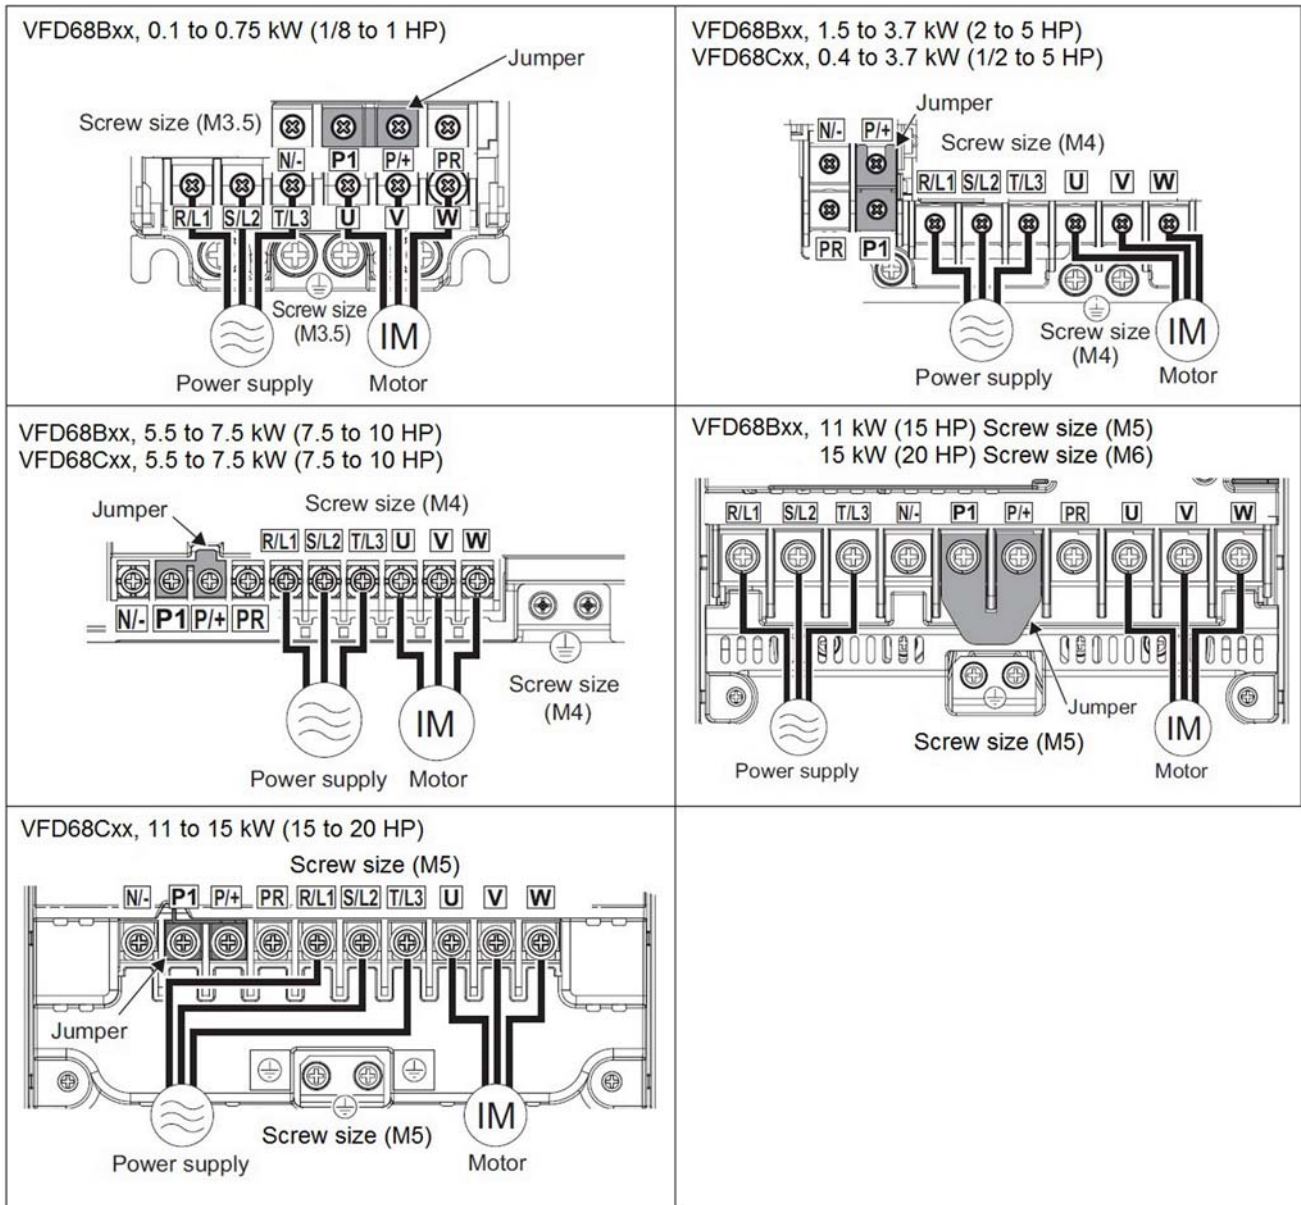

Figure 11: High-Voltage Terminal Block Wiring
3. Connect the high-voltage power supply to terminals R/L1, S/L2, and T/L3 on the drive (Figure 11).
4. Connect the motor wiring to high-voltage output terminals U, V, and W on the drive (Figure 11).